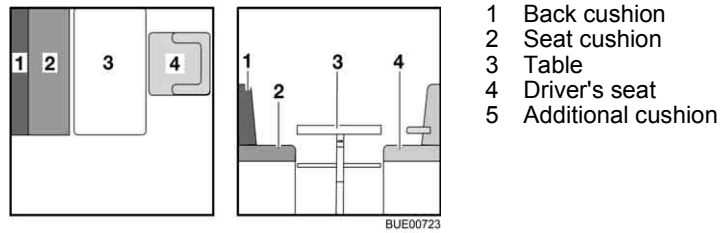

Fig. 121 Prior to conversion
- Turn the driver's seat (Fig. 121,4) and push it all the way forward.
- Convert the table (Fig. 121,3) to a bed foundation (see section 6.11).
- Lay the back cushion (Fig. 121,1) aside.